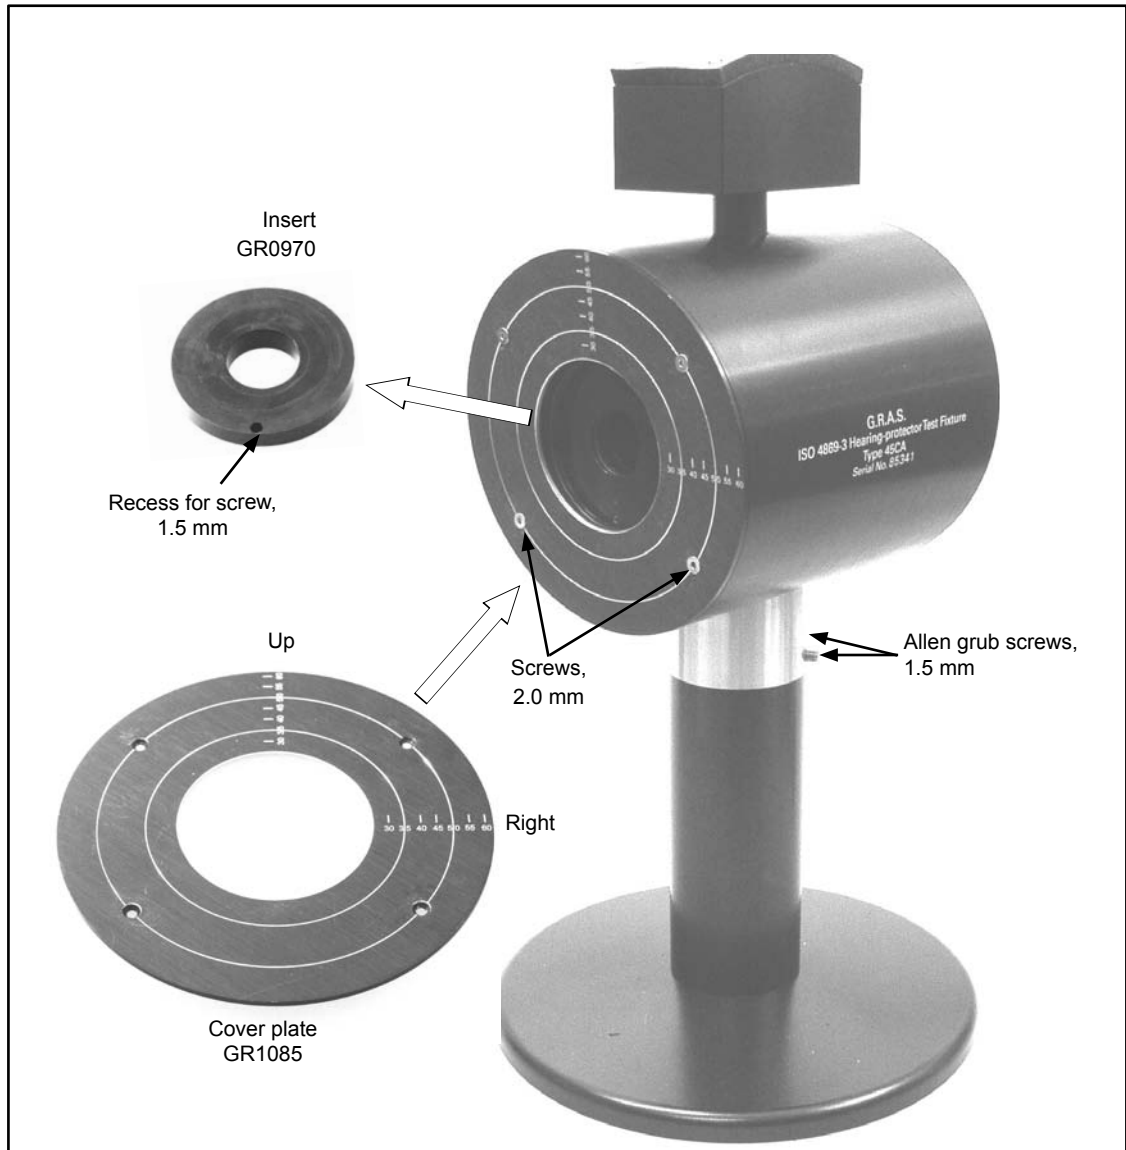

Fig. 5.8 Test-fixture Type 45CA prepared for the RA0039 assembly
1. See Fig. 5.8:
2. Using Allen key 1.5 mm, loosen the grub screw (Fig. 5.8), and separate the head from the pedestal.